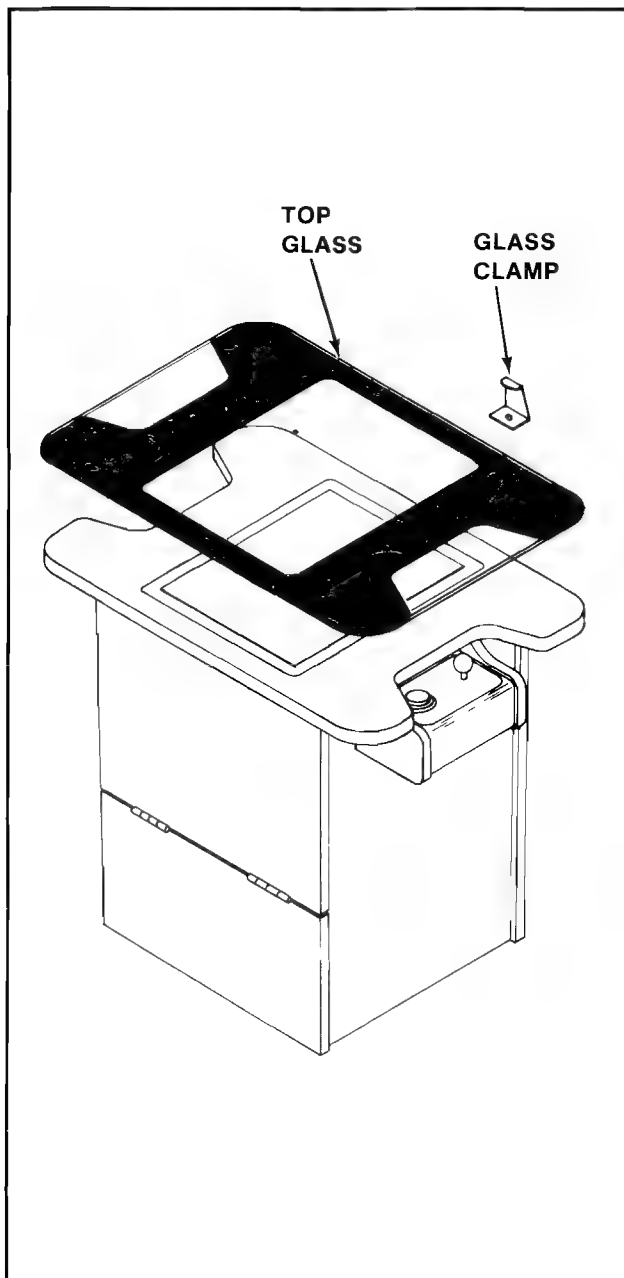

Figure 4-7 Removing the Top Glass & T.V. Bezel —
3. COCKTAIL TABLE MODEL: See Figure 4-7.